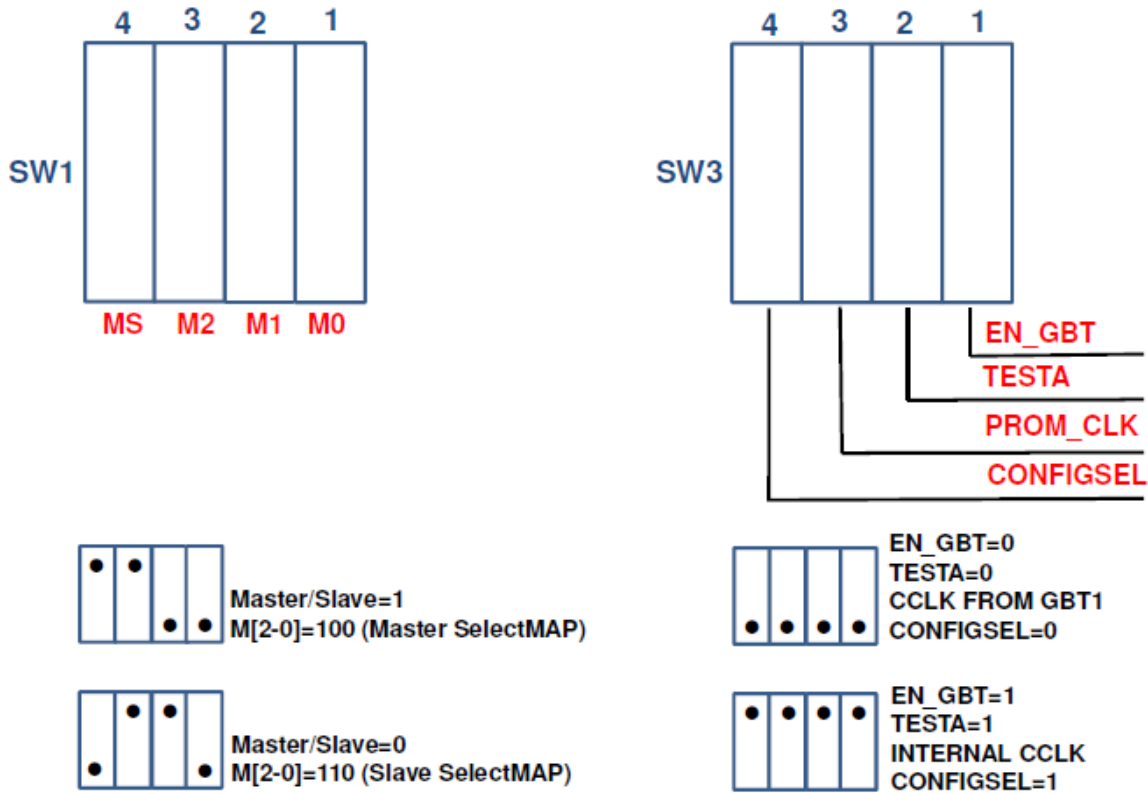

Fig.4: SW1 and SW3 jumpers on the top side of the OH board
- Configuration pins M0..M2 with embedded pull-ups can be grounded with a switch SW1-1..3 to select the configuration mode (Slave SelectMAP default for configuration from the GBT1 ASIC; Master SelectMAP for configuration from EPROM). Settings of SW1 are shown in Fig.4.
- An identification input MASTER/SLAVE from the switch SW1-4 to the FPGA to select either Master ("1") or Slave ("0") mode (Fig.4).
CONFIGSEL input for both GBTx devices has an external pull-down and also can be connected to +1.5V (SW3-4, Fig.4). CONFIGSEL="0" to access the GBTx from its optical link and "1" to access it from the dongle.